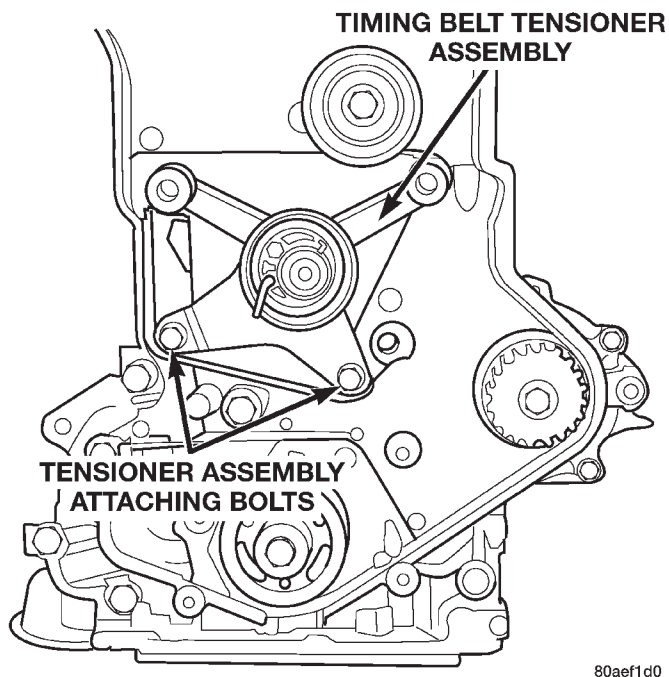

Fig. 58 Timing Belt Tensioner Assembly—Removal/Installation
- (1) Remove timing belt. Refer to procedure outlined in this section.
- (2) Remove tensioner assembly attaching bolts (Fig. 58).
- (3) Remove tensioner assembly.